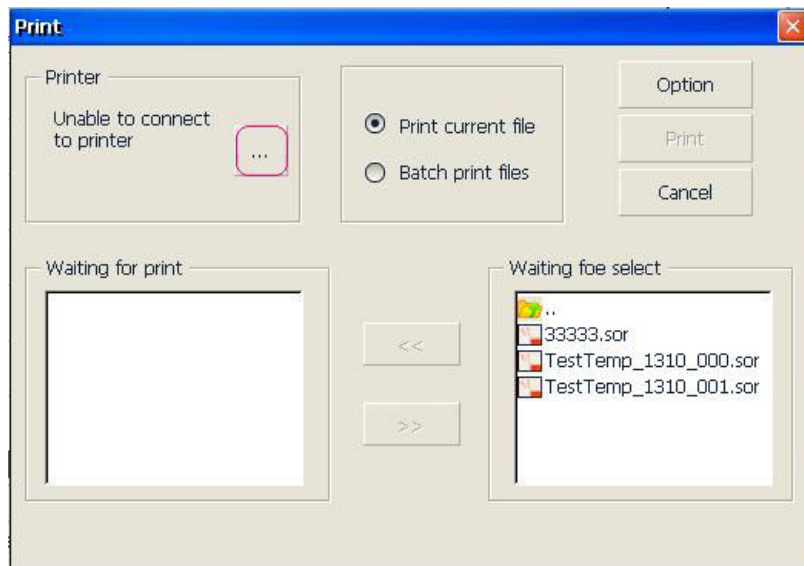

Fig. 2.2 Printer and setting interface
- 4) Click the  on the lower right corner, enter Print interface, as Fig. 2.2 shown below